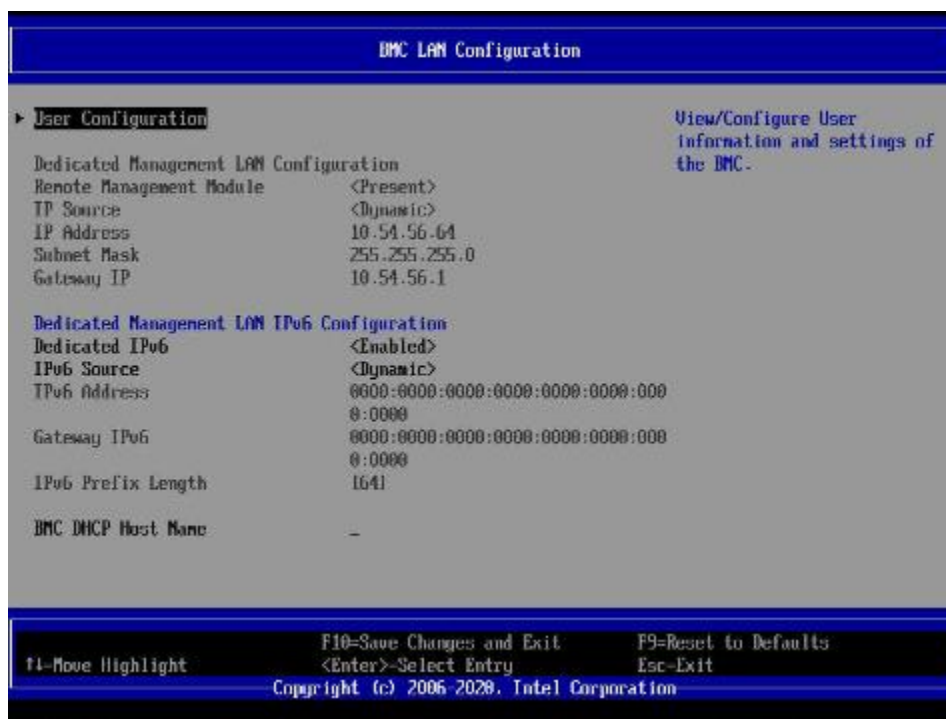

Figure 101. BIOS Setup BMC LAN Configuration Screen
2. Navigate to the **Server Management** tab and select **BMC LAN Configuration** to enter the BMC LAN Configuration screen (Figure 101).